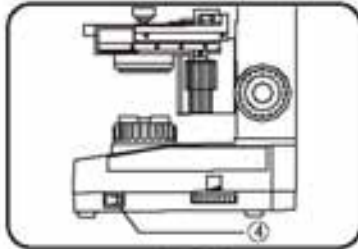

Fig. 8
**▲** Before replacing the bulb, set the main switch ④ to (OFF), unplug the power cord and wait until the bulb and its surroundings have fully cooled down to prevent electric shock or burns. (Fig. 8)